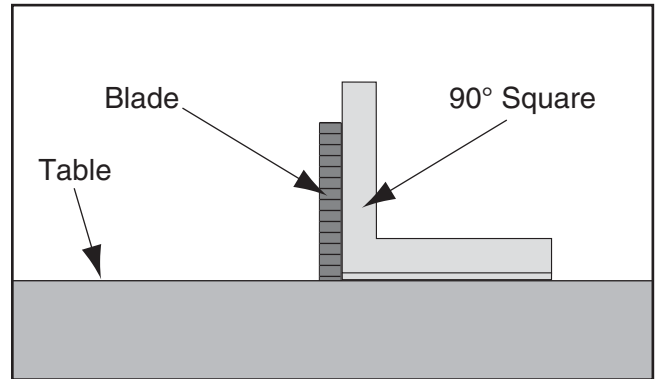

Figure 77. Checking blade at 90°.
3. Place a 90° square against the table and blade so it contacts the blade evenly from bottom to top, as shown in **Figure 77**. Make sure a blade tooth does not obstruct the placement of the square.